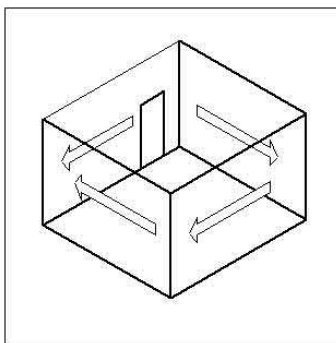
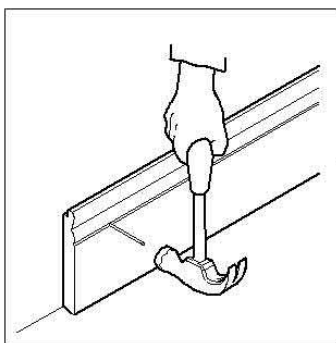

Fig 1. Work away from the door
Fig 2. Fix the skirting securely through the groove, ensure the skirting is level
Remove old skirting boards and make good if necessary. Cut your skirting to suit and check that all the cut skirting fits correctly before attempting to secure it. Fixing can be done using either nails – oval or lost head – or “Forget Nails” adhesive. If using nails, fix along the groove (as shown in Fig 2) and punch the nails below the surface so the hole can be filled for a smooth finish. Nail at maximum 900mm centres, closer if the walls are uneven. If fixing to masonry, use masonry nails, driven in at an angle horizontally. If using “Forget Nails”, apply to the back of the skirting as instructed on the cartridge. Note there will be a tendency for the panels to push away from the wall until the adhesive has set.
1. Positioning of the stair rail, skirting and jointing strips at top and bottom of flight of stairs is critical for correct installation (see figure 1). The stair rail is identical to the dado rail and is fitted with the groove upwards. Measure the length of stair rail required. Fit stair rail and skirting as per figure 1. You may have to adjust the final details to ensure the grooves of the skirting and stair rail meet correctly.
2. Position jointing strips as shown in figure 1 ensuring that they are vertical. IT IS IMPORTANT THAT THE JOINTING STRIPS AT THE TOP & BOTTOM OF STAIR ARE FITTED AND POSITIONED CORRECTLY AS THIS ENSURES THAT THE PANELLING HEIGHT IS CONSTANT THROUGHOUT INSTALLATION. Now plan the standard wall panels (not stair panels) as shown in figure 2. It is generally best to work from these jointing strips into the corners of hall or landing. DO NOT fit dado rail to wall panelling. This will be the final part of the installation.